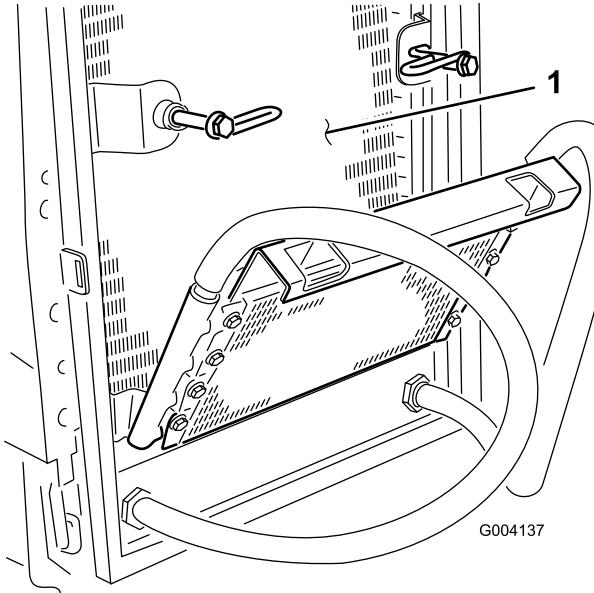

Figure 50
7. Working from the fan side of the radiator, blow out debris with low pressure (50 psi) compressed air (do not use water). Repeat the step from the front of the radiator and again from the fan side. Thoroughly clean both sides of the oil cooler. After the radiator and oil coolers are thoroughly cleaned, clean out any debris that may have collected on other parts of the machine (Figure 50) with compressed air.